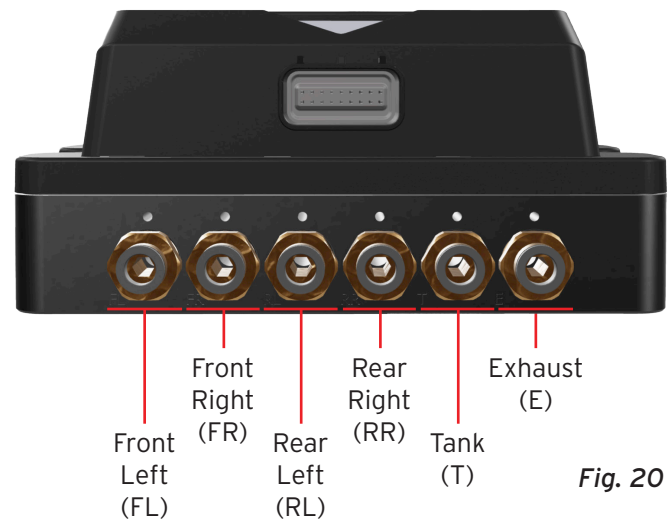

Fig. 20
- The tank to the water trap and the water trap to the tank port (T) on the manifold (reference Figure 20 to see manifold port definitions).
- The exhaust port (E) can be left open or routed to preferred exhaust location. Routing exhaust outside of vehicle will eliminate any possibility of moisture being discharged from the port to surrounding area.